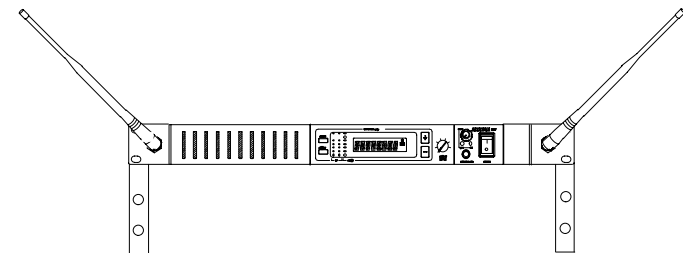

FIGURE 9
4. Attach the supplied UHF antennas to the BNC connectors on the front panel, as shown in Figure 9. For best performance, orient the antennas with tips pointing away from each other at a 45° angle from vertical.